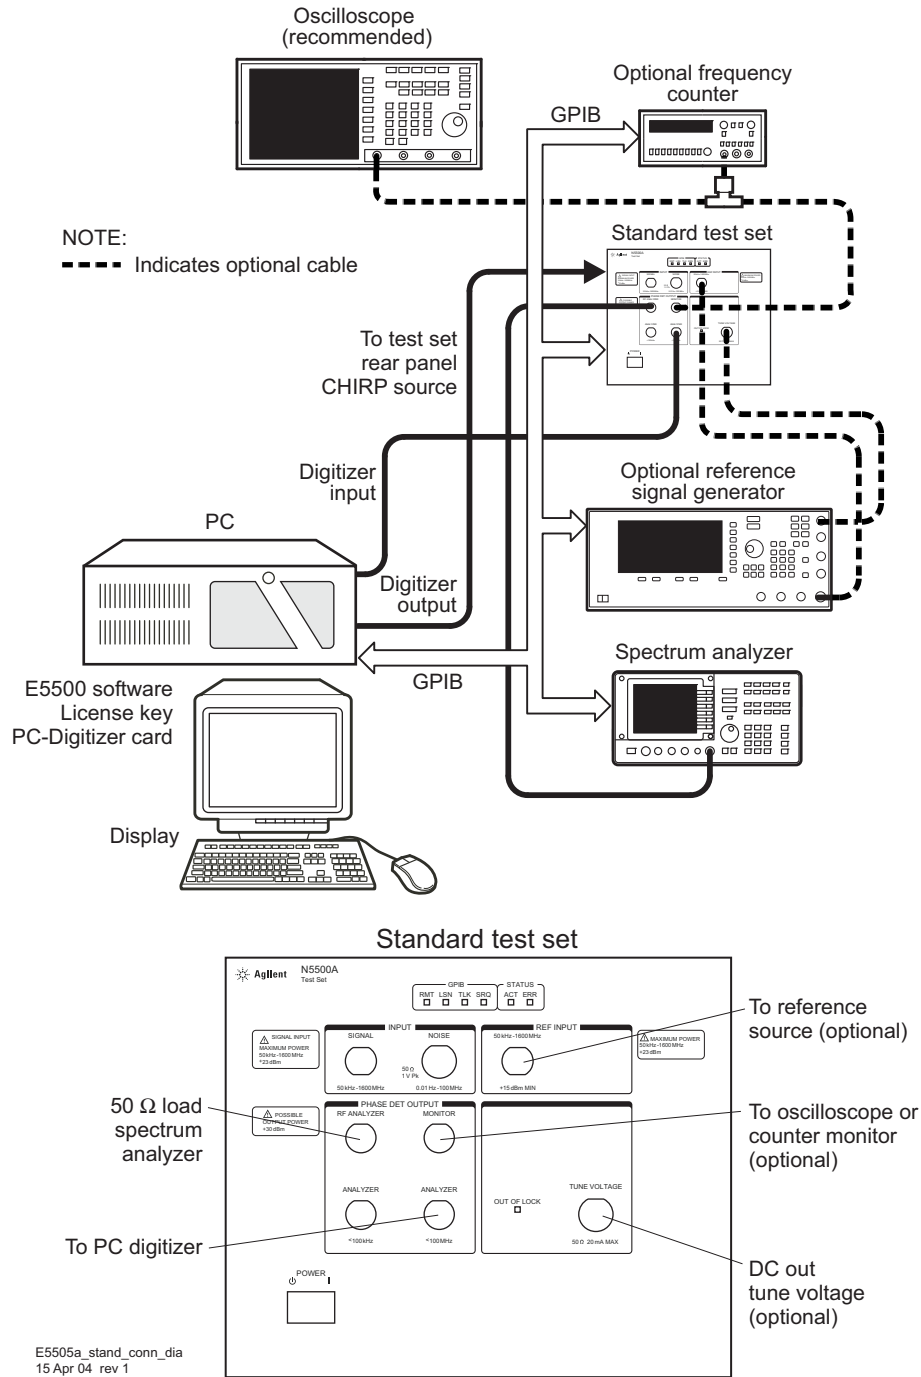
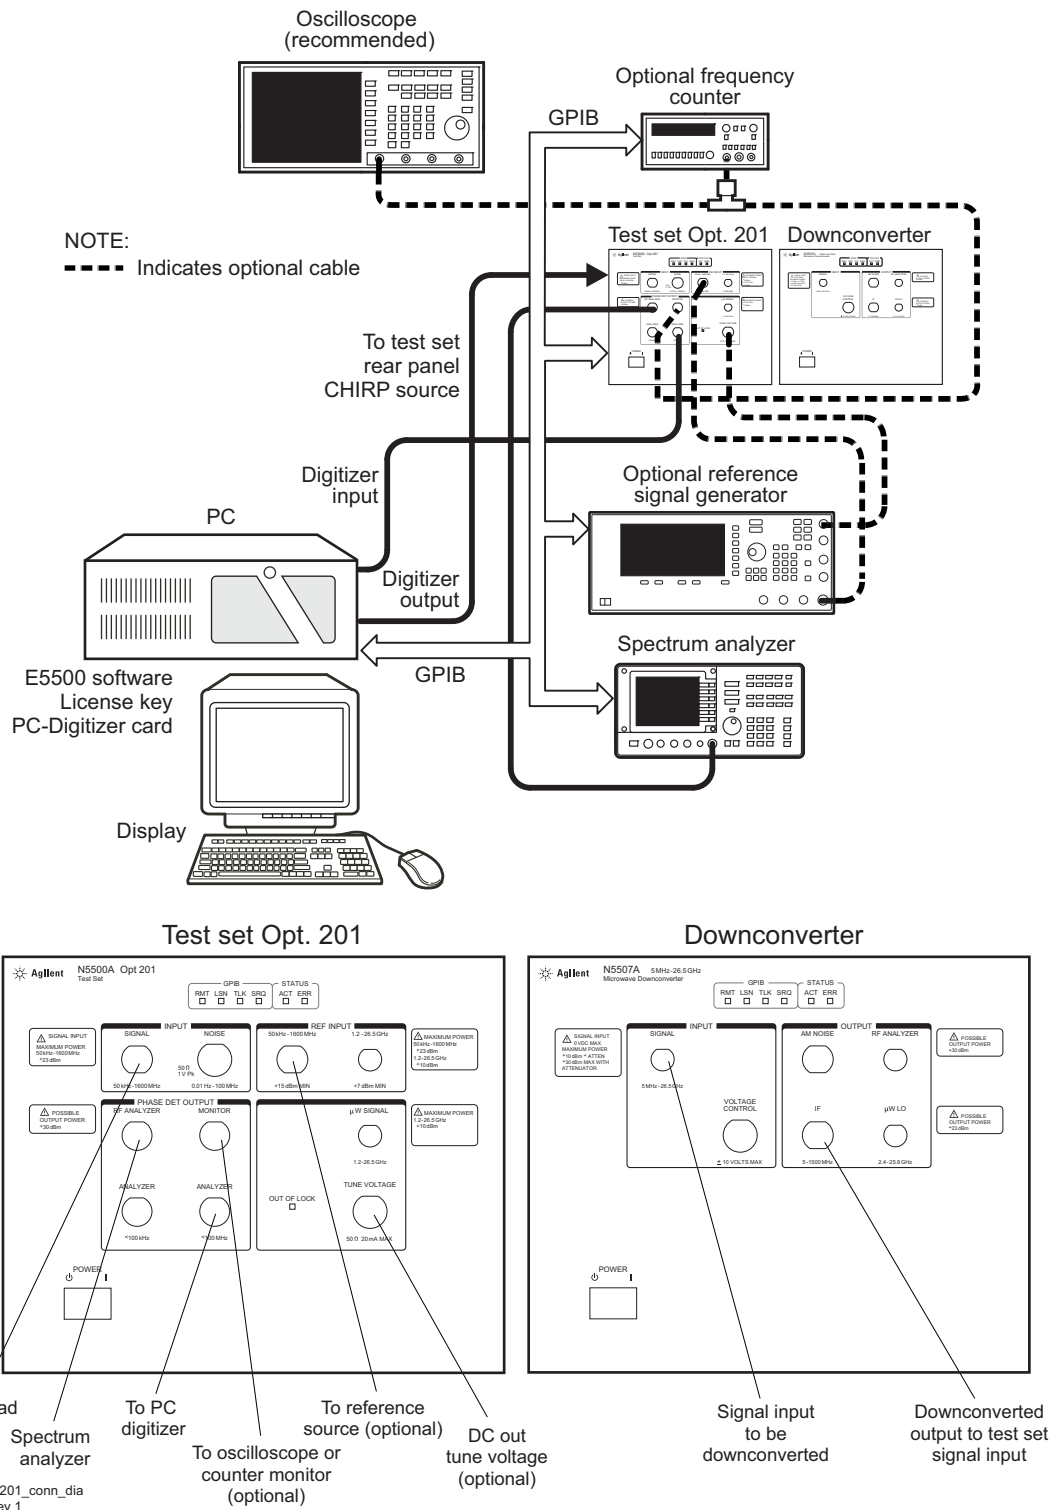

Figure 307 E5505A system connections with standard test set
Figure 309 E5505A system connections with test set option 201
- 4 Connect cables to other instruments with the appropriate connectors and adapters, using the tables and diagrams in this section. (Refer to Figure 307 on page 411 through Figure 309 on page 413.)